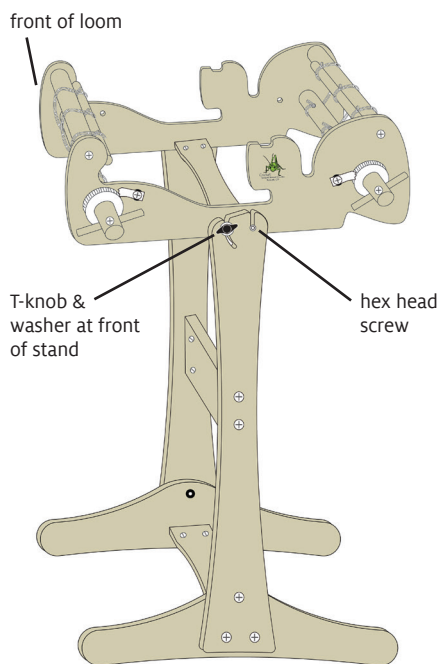

FIGURE 6: PLACE LOOM ON STAND
8. Add the Cricket or Cricket with Quartet to the stand: Orient the front of the loom with the front of the stand (Figure 6). Place the loom between the legs, setting the hex head screws in the short straight slots and the T-knobs in the long curved slots. The washers on the T-knobs should sit **outside** of the legs.